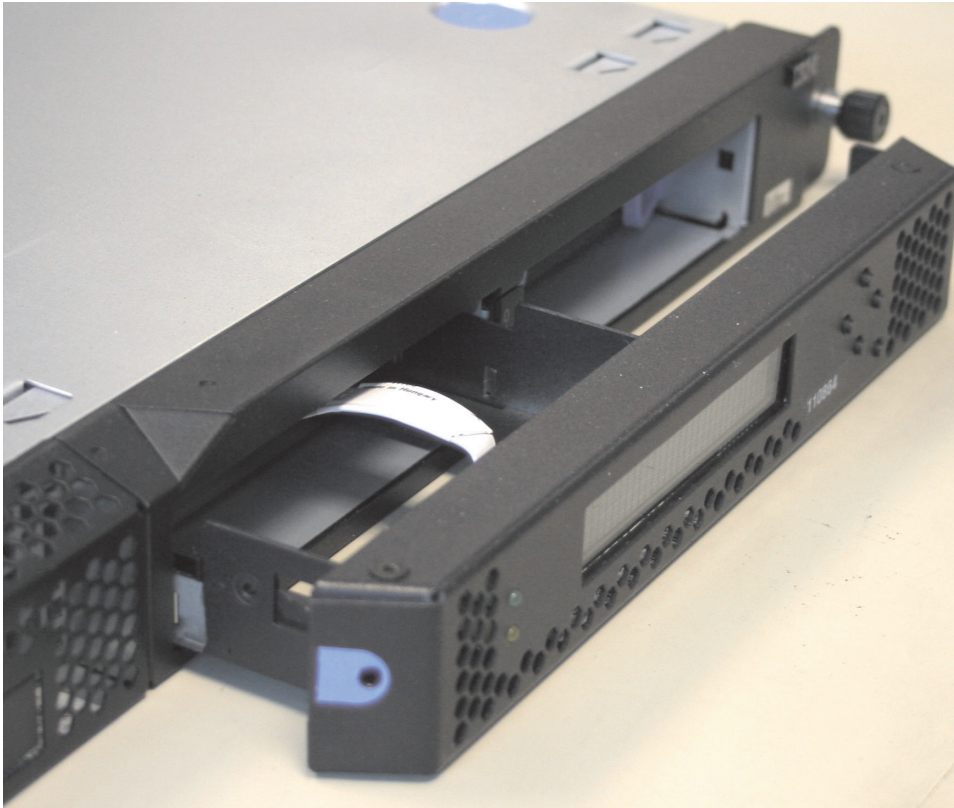

Figure 84. SAN Volume Controller 2145-8A4 service controller
1. Gently push the service controller (shown in Figure 84) into the frame until the rear connectors are fully seated and the service controller front metal work is up to the frame.